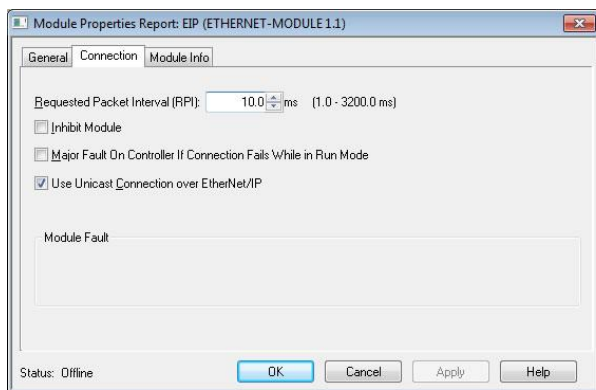

Figure 31: Module Properties Connection Tab
- 5) You should now see the new module (named “ETHERNET-MODULE Interface_Card”) in the 1756-ENBT/A branch under the I/O Configuration in the controller organizer view. Right click on this new module, choose “Properties”, and select the Connection tab. Refer to Figure 31.